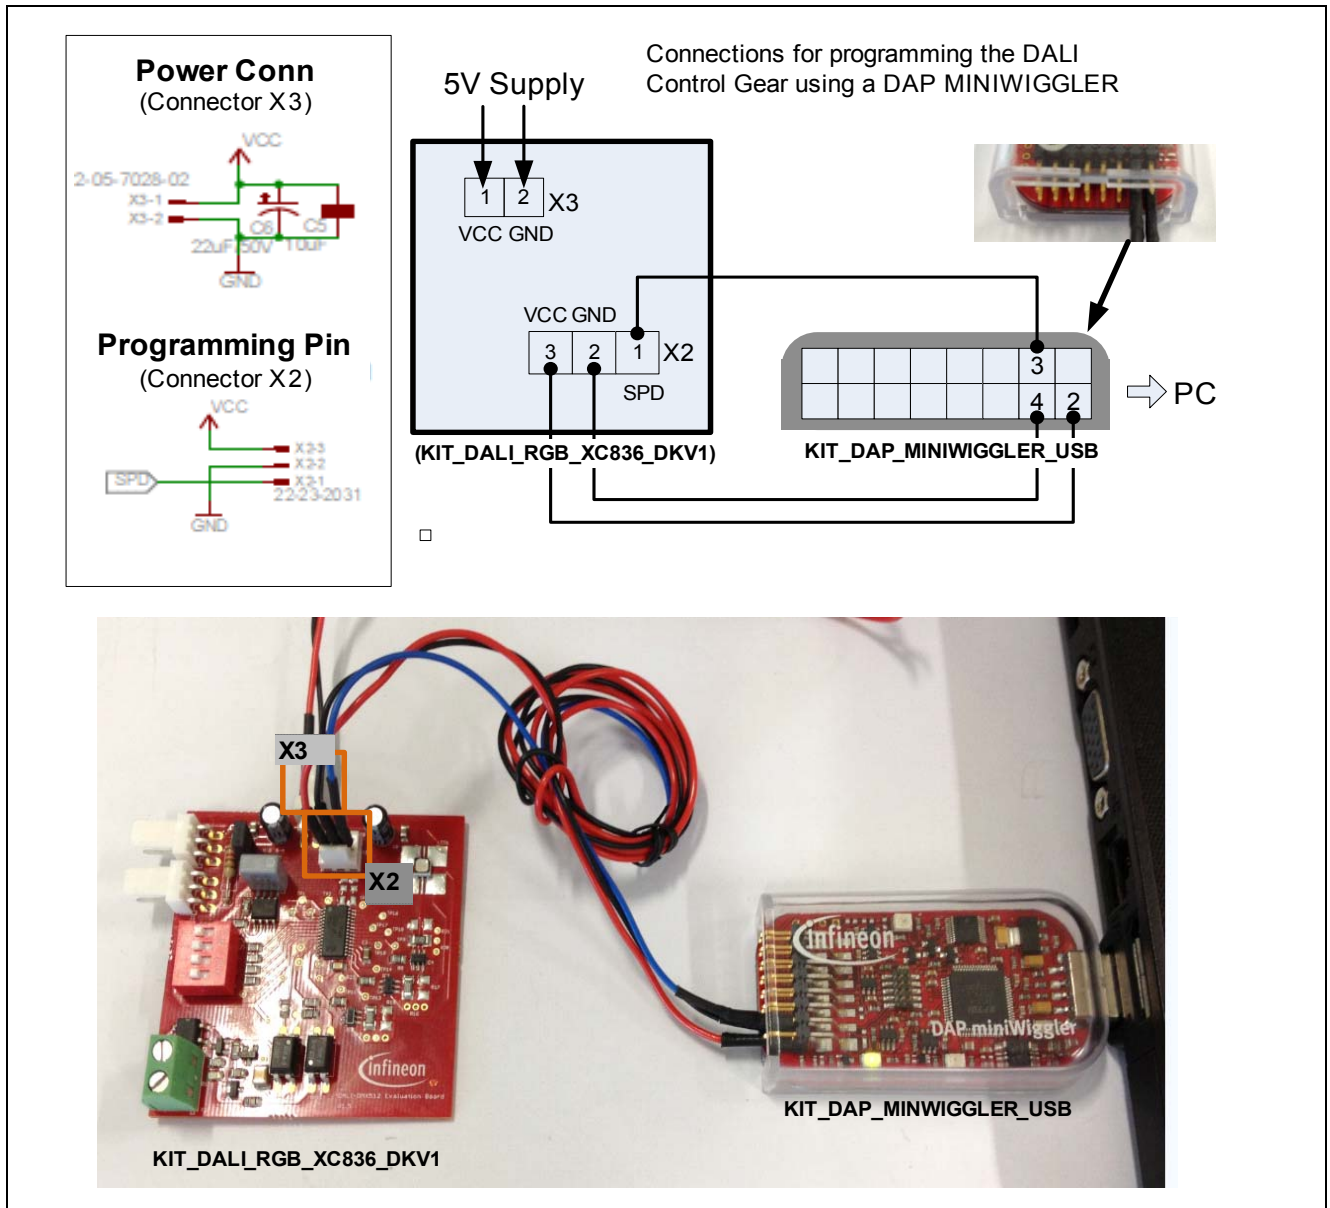

Figure 17 Programming the Control Gear using DAP miniWiggler
- Connect the DAP MiniWiggler to the DALI Control Gear as shown in Figure 17. Download the hexfile (File:AP08102\_v1\_2\_Slave.hex) from Section 2.4 into the DALI Slave Board using XC800 FLOAD in DAVEBENCH™ or KEIL UVision4.